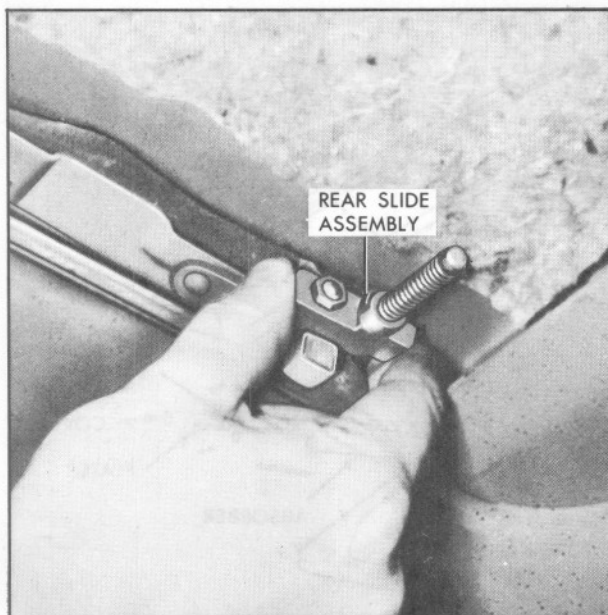

Fig. 15-34 Removing Rear Slide And Cable Assembly From Retainer
8. Pull each rear slide and cable assembly inboard and out of slide retainer hole in roof panel, Fig. 15-34.
5. Lift rear of roof panel upward and actuate control switch to position rear slides into alignment with holes on slide retainers on roof panel, Fig. 15-34.